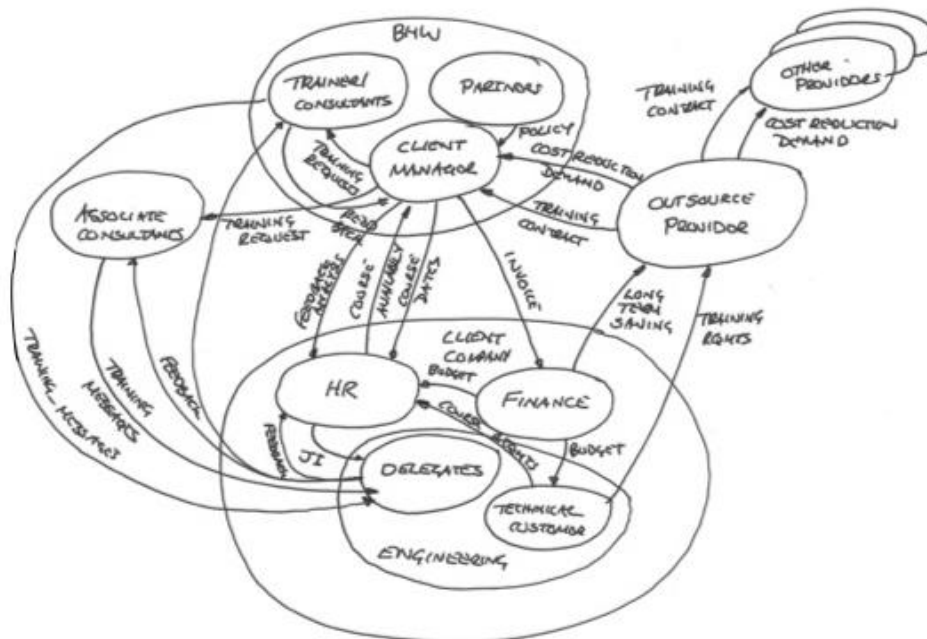

Figure 1: An Influence Diagram for a supply chain situation
An Influence Diagram (ID) is a tool for identifying and capturing the important relationships or influences that exist between the elements of a system. Figure 1 shows an example Influence Diagram constructed to understand the relationships and interaction between groups of people and individuals in a complex supply chain situation.
The content of Figure 1 will be described in more detail later. Its purpose here is to show the overall format and elements of an Influence Diagram. It is very similar in construction to a Systems Map [1] with groups of system elements. It differs in that the diagram also shows the important relationships and interactions between the groups and elements.
Figure 1 is an Influence Diagram of an aspect of my Training and Consultancy Company. It was drawn to capture and understand the interactions of between my company, BHW, a client company, the client company's outsource provider, other competitor providers and our associate trainers. It started life a Systems Map, but with no environmental elements. This was a deliberate choice because I wanted to focus on the internal elements of my company and the client company. Exposing levels of detail like this is perfectly acceptable (although I am on the upper limit of Miller's 7±2). Note also that the arrows are all tangible.
Figure 1 has proven useful on several counts. Firstly, it does present a simple business model that can be used to explain how we operate and how some clients chose to operate. This model is particularly useful in explaining to new staff the typical interactions. Moreover, as a baseline model, it is easy to see how other clients interact with us, particularly if we put names the various elements. It also highlights what information is needed and the interfaces between the elements which in turn helps us without ISO9001 accreditation.